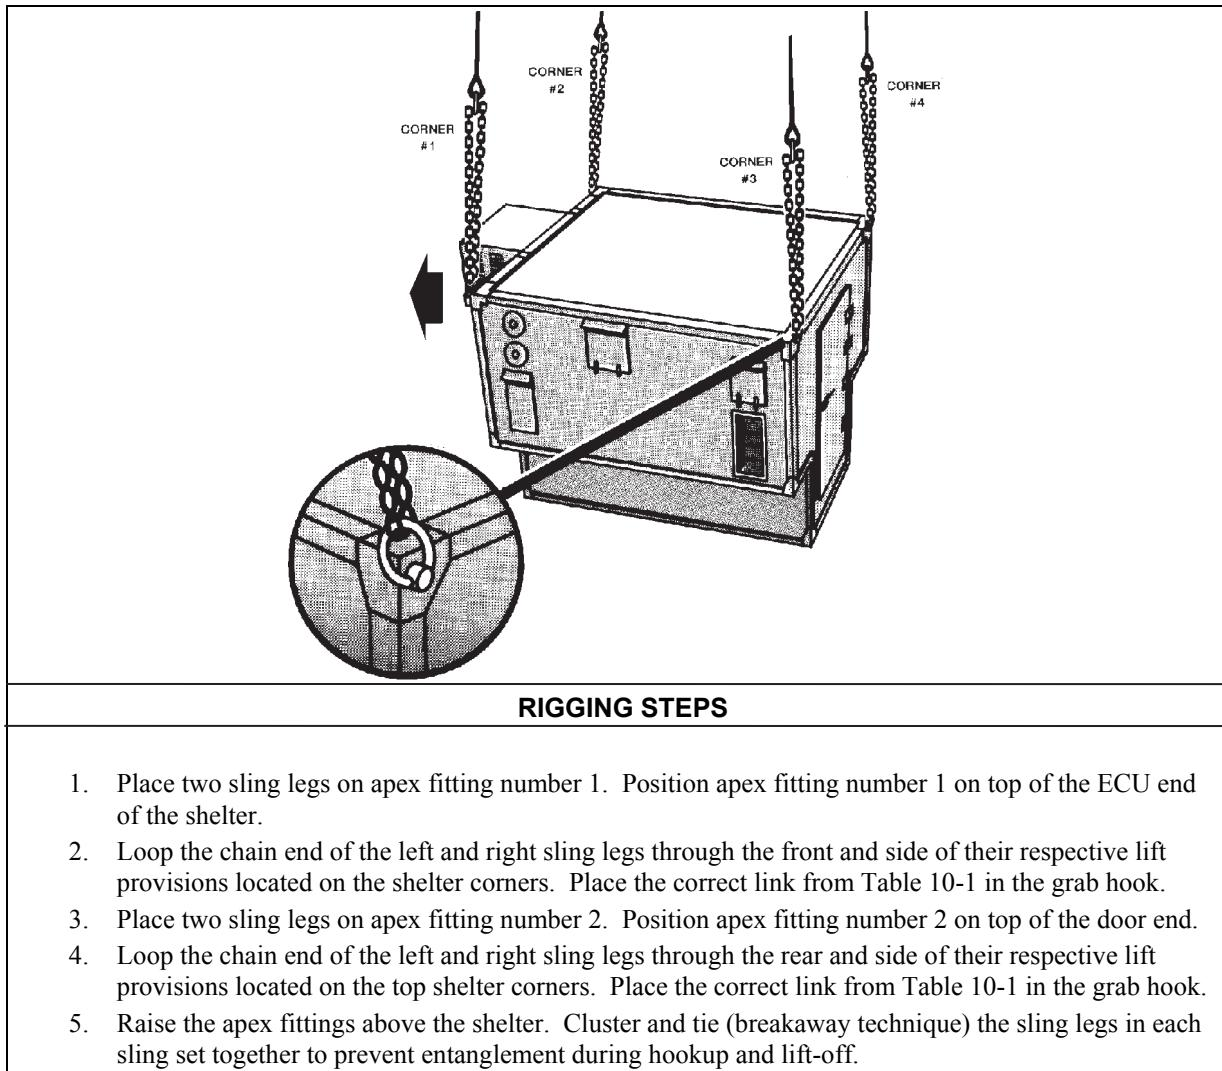

Figure 10-1. S-250 Shelters
- **Rigging.** Rig the load according to the steps in Figure 10-1.